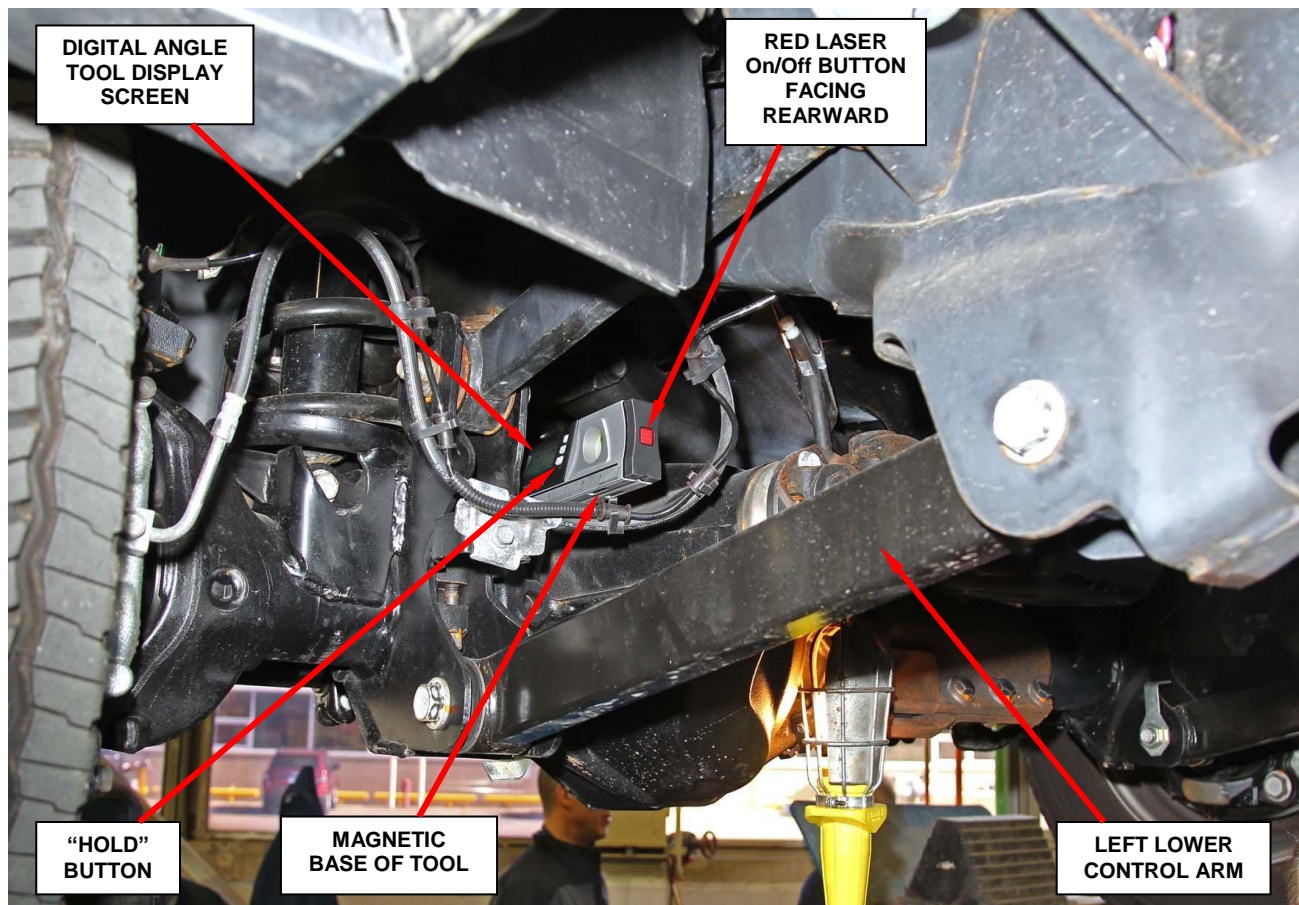

Figure 4 - Digital Angle Tool on Left Jounce Pad
8. Place the digital angle tool onto the left jounce bumper pad with the magnetic side down and the digital angle tool red “Laser ON/OFF” button facing rearward (Figure 4).